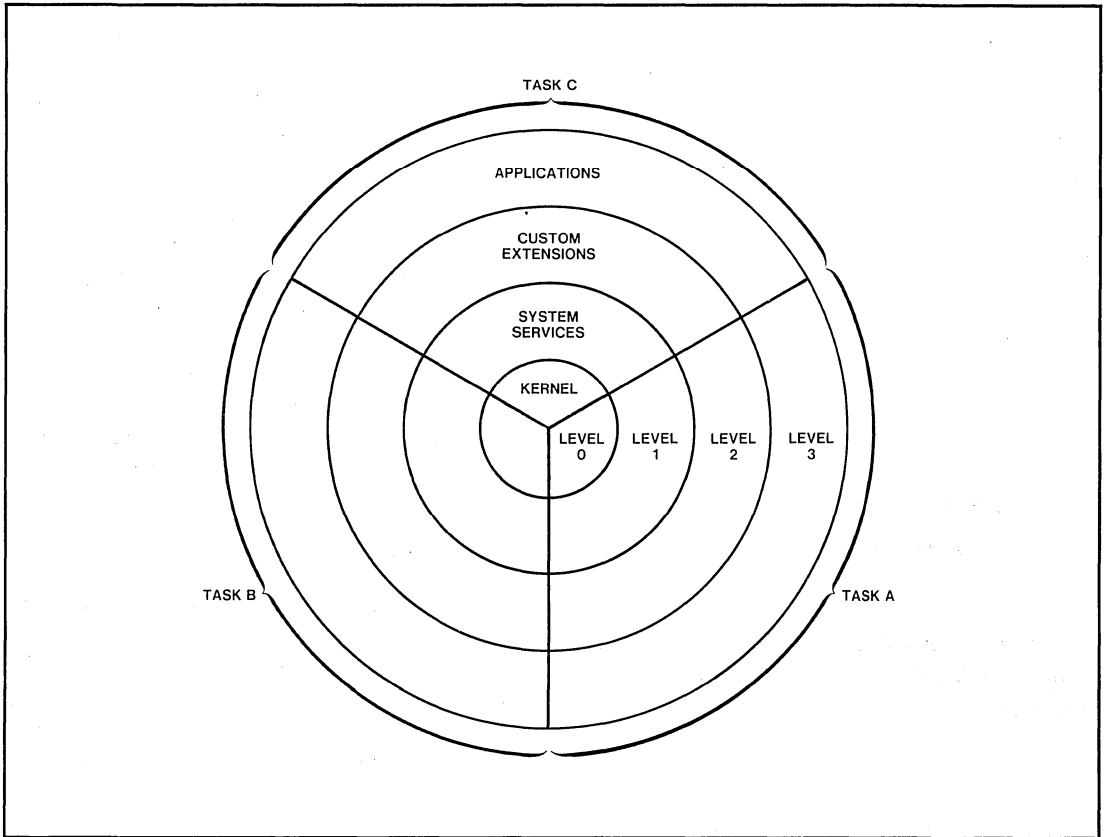

Figure 7-6. Code and Data Segments Assigned to a Privilege Level
Privilege on the iAPX 286 is hierarchical. Operating system code and data segments placed at the most privileged level (0) cannot be accessed directly by programs at other privilege levels. Programs at privilege level 0 may access data at all other levels. Programs at privilege levels 1-3 may only access data at the same or less trusted (numerically greater) privilege levels. Figure 7-6 illustrates the privilege level protection of code or data within tasks.
In figure 7-6, programs can access data at the same or outer level, but not at inner levels. Code and data segments placed at level 1 cannot be accessed by programs executing at levels 2 or 3. Programs at privilege level 0 can access data at level 1 in the course of providing service to that level. iAPX 286 provides mechanisms for inter-level transfer of control when needed (see section 7.5).
Two extra privilege levels allow development of more reliable, and flexible system software. This is achieved by dividing the system into small, independent units. Figure 7-6 shows an example of the usage of different protection levels. Here, the most privileged level is called
Each task operates at only one privilege level at any given moment: namely that of the code segment being executed. (The conforming segments discussed in section 11.2 permit some flexibility in this regard.) However, as figure 7-6 indicates, the task may contain segments at one, two, three, or four levels, all of which are to be used at appropriate times. The privilege level of the task, then, changes under the carefully enforced rules for transfer of control from one code segment to another.